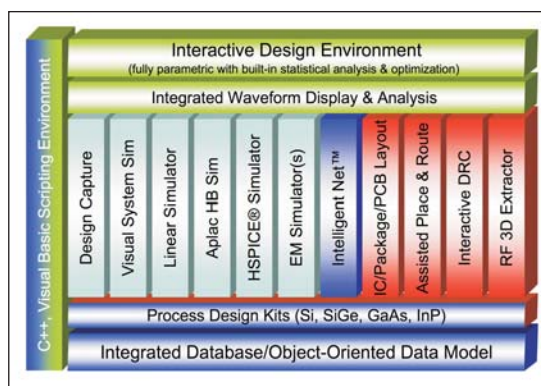

Figure 1 • The Analog Office 2006 open design platform integrates best-in-class tools, including four circuit simulators and five electromagnetic simulators.
Analog Office 2006 design platform features the second generation of the AWR Intelligent Net™ (iNet) technology, which powers "on-the-fly" interconnect extraction through an advanced interconnect-based design methodology. In this latest release, AWR continues its commitment to provide the industry with an easy-to-use, open RF design platform that is fully integrated with five best-in-class electromagnetic (EM) tools, as well as four circuit simulators (see Figure 1). Analog Office 2006 software offers a proven design flow and validated process design kits (PDKs), which enable multiple tape-outs, including several to the Jazz Semiconductor silicon germanium (SiGe) process.